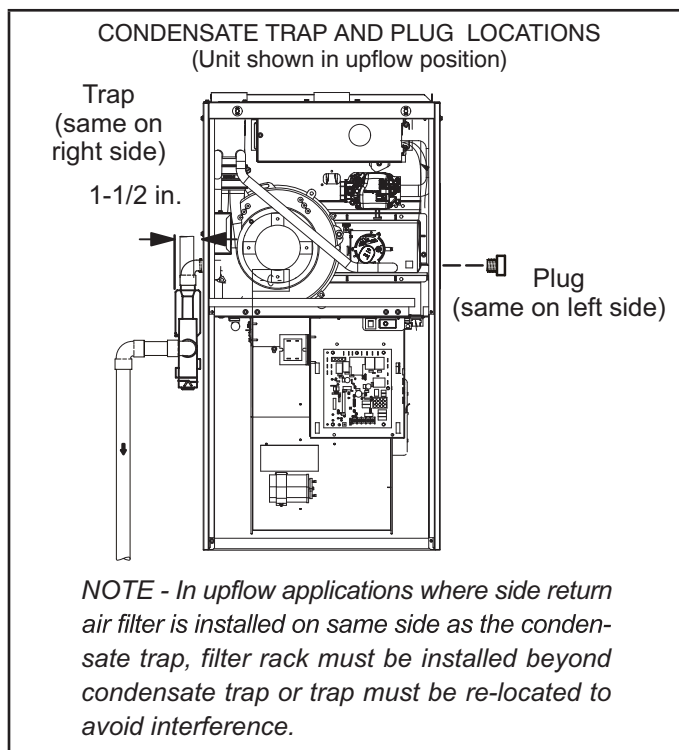
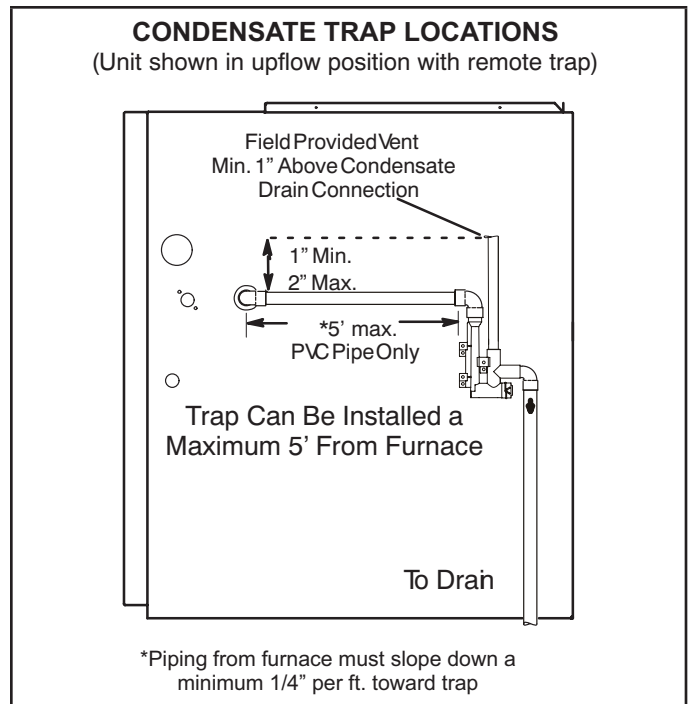
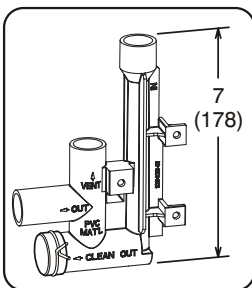

FIGURE 46
FIGURE 47
FIGURE 54
This unit is designed for either right- or left-side exit of condensate piping in upflow applications. In horizontal applications, the condensate trap must extend below the unit. An 8" service clearance is required for the condensate trap. Refer to FIGURE 46 and FIGURE 47 for condensate trap locations. FIGURE 54 shows trap assembly using 1/2" PVC or 3/4" PVC.
- 2 - Use a large flat head screw driver or a 1/2" drive socket extension and remove plug (FIGURE 46) from the cold end header box at the appropriate location on the side of the unit. Install provided 3/4 NPT street elbow fitting into cold end header box. Use Teflon tape or appropriate pipe dope.
- 3 - Install the cap over the clean out opening at the base of the trap. Secure with clamp. See FIGURE 54.
- 4 - Install drain trap using appropriate PVC fittings, glue all joints. Glue the provided drain trap as shown in FIGURE 54. Route the condensate line to an open drain. Condensate line must maintain a 1/4" downward slope from the furnace to the drain.